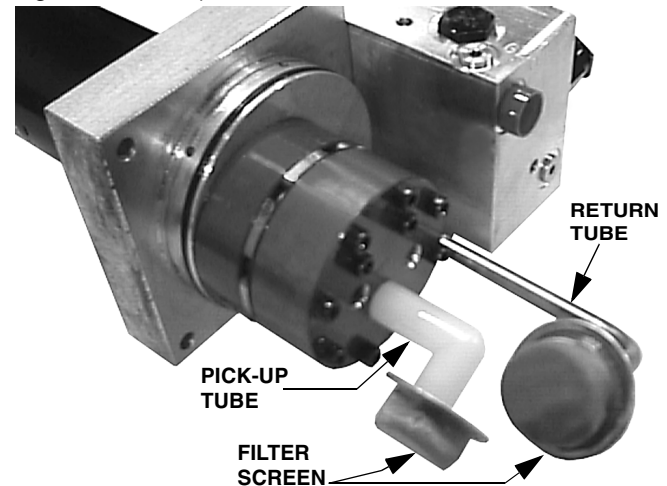

Figure 2-3
10. Unscrew the filter screens from the reservoir oil pick-up tube and return tube and clean them with a suitable solvent. Blow dry the filter from the inside with low pressure air (See Figure 2-3).